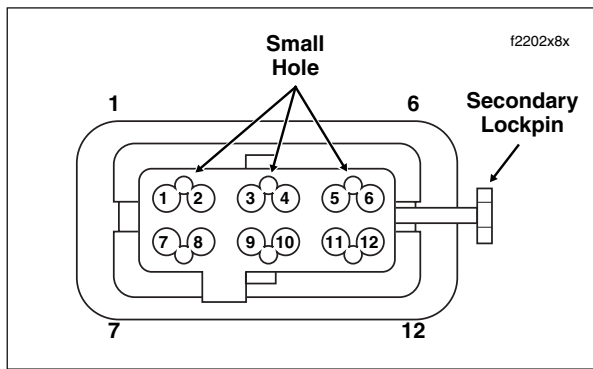

Figure B-27. Mating End of Connector
2. Locate the head of the secondary lockpin on one side of the connector housing. See Figure B-27.
- a. Locate small hole between terminals on mating end of connector. See Figure B-27.
For wire location purposes, the corners of the socket housing are stamped with the numbers 1, 6, 7 and 12, representing terminals 1-6 on one side, and 7-12 on the other. See Figure B-27.